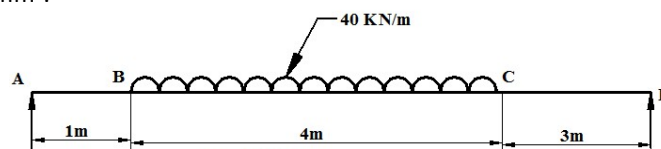

Figure 39
3. For the beam loaded as shown in **Figure 39**, find the position and magnitude of maximum deflection. Take  $E=200 \times 10^6$  N/mm2 and  $I=4.3 \times 10^8$  mm4.